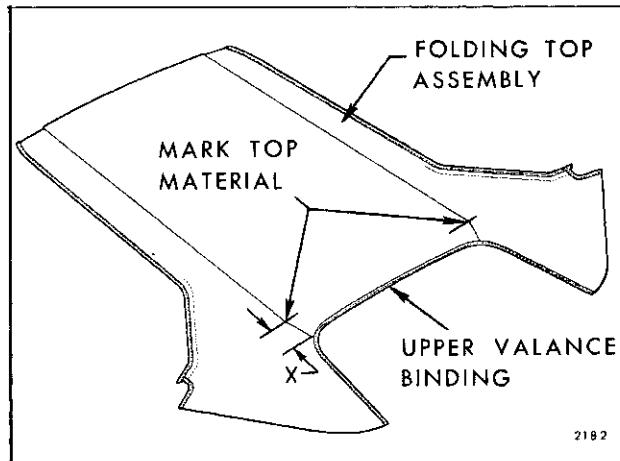

Fig. 13-18—Marking Top Material
20. Using a pencil, mark top material (mark should be approximately $1/2"$ in length) at deck seam $5-1/4"$ on "B, C & F" and $5-3/8"$ on "A" and $4"$ on "Z" Styles from edge of top material upper valance binding. (See dimension "X" in Fig. 13-18.)